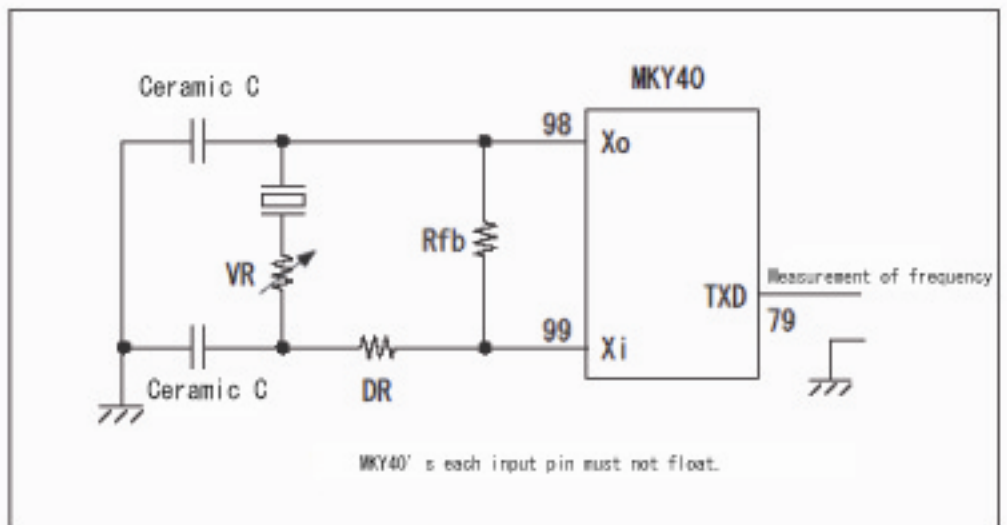

Figure 1
Normally, it is general that, when selecting the oscillator that is used for a mass-produced product, the user provides the LSI of interest to the oscillator maker and then receives from the oscillator maker the value of the peripheral part compatible with that LSI and that oscillator. This is because, since the oscillator operates analog-wise, you need to establish the peripheral part value, based on the oscillator-specific characteristics. However, for other than mass-produced products, the oscillator maker may not present the value of the peripheral part. So, the method of establishing the peripheral constant by observing the stability of crystal oscillation is shown below. In this method, the stability is established, determining the peripheral part value from the load capacitance and equivalent resistance value specific to the selected crystal oscillator. In MKY40, there exists no feedback resistor so that you can set more appropriate feedback resistance value. The oscillator has its specific parameters that are posted by the oscillator maker. In an oscillation circuit that uses the C-MOS inverter adopted by MKY40, as an amplifier, focus on the load capacitance and the equivalent resistance, which are parameters that are posted by the oscillator maker. The equivalent resistance value is an criterion to measure and determine the stability and margin of the oscillation circuit. Evaluate MKY40 and select the circuit constant, seeing Figure 1 below and using the following method.
1. As shown in Figure 1 above, connect VR to the oscillator in series, and at the TXD pin, check the oscillation and measure the frequency (place each part close to the LSI, and do not route wiring; also it is favorable to use, as VR, a potentiometer with high-frequency characteristics).